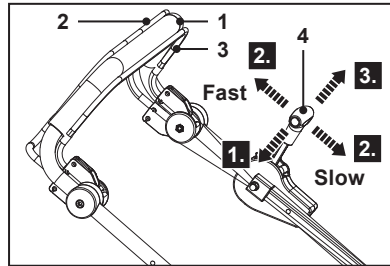

Fig. 16
1. Hold the brake lever (3) and the self-propelling lever (2) against the upper hand bar (1).
2. Pull the speed lever (4) towards the upper hand bar (1) (Fig. 16, step 1), then move it forward or backward to the desired self-propelled walking speed (Fig. 16 step 2).
3. Release the speed lever (6) and ensure it engages into place properly (Fig. 16, step 3).